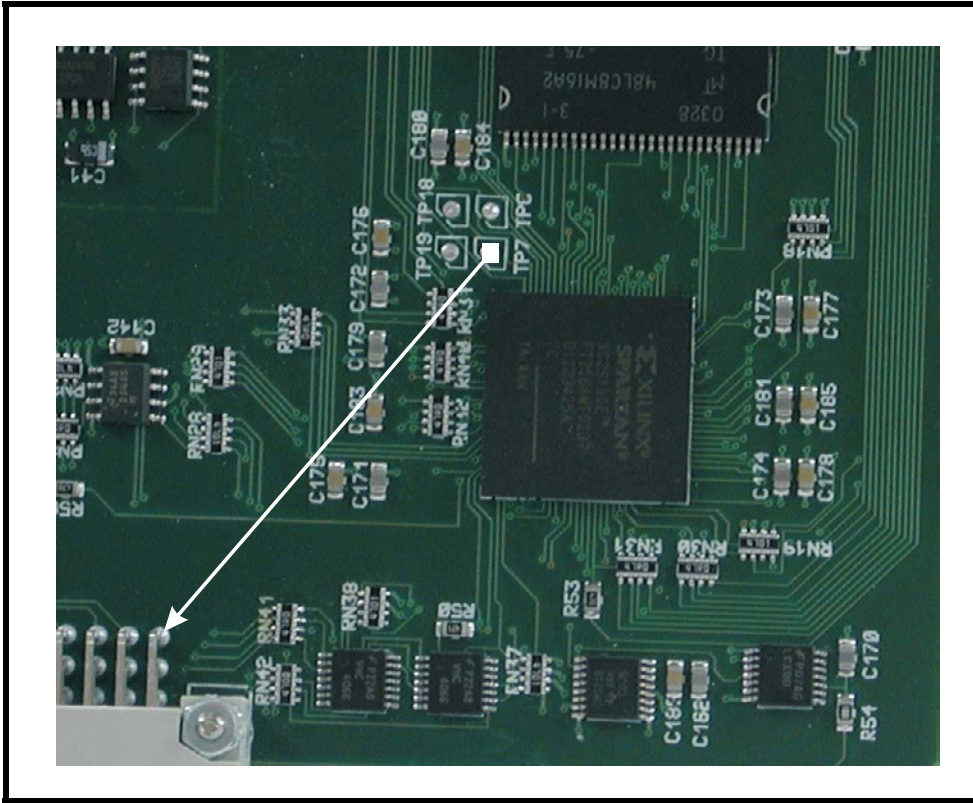

FIGURE 3. TP7 Ground to J3 C1 connector placement
2. On the front card, ground TP7 to connector J3 pin C1 so it will be recognized as the new Rev D card. See figure 3.